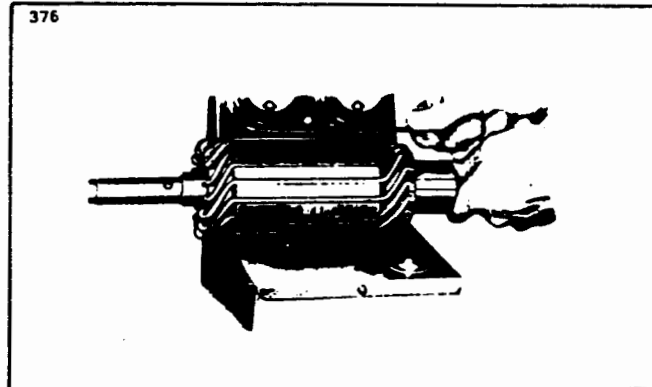

Figure 11-49. Testing Motor Armature for Shorts
c. To test for shorted armature coils, a growler is used. (Refer to Figure 11-49.) The armature is placed on the growler and slowly rotated by hand while a steel strip is held over the core so that it passes over each armature core slot. If a coil is shorted, the steel strip will vibrate.